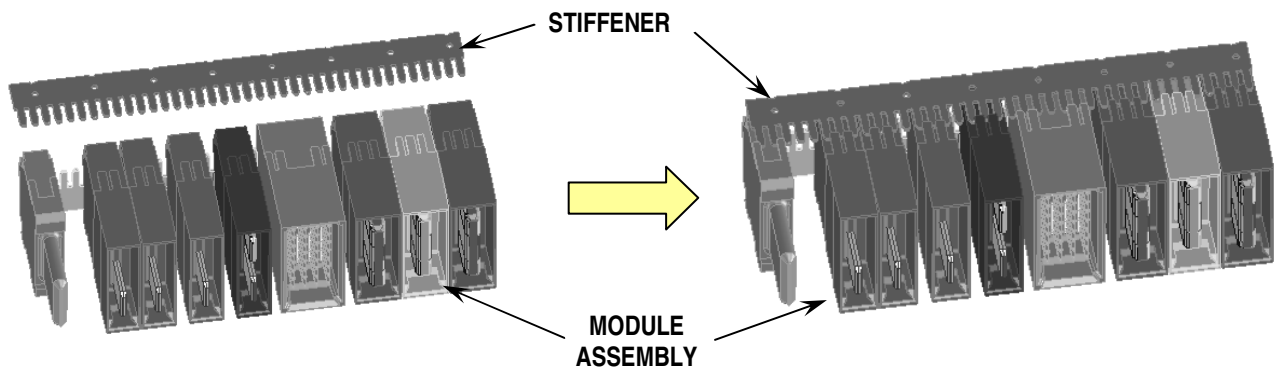

Figure 3
1. To do this, align the metal stiffener in the proper position with all individual modules. See Figure 3. Start the metal stiffener onto the modules by hand.